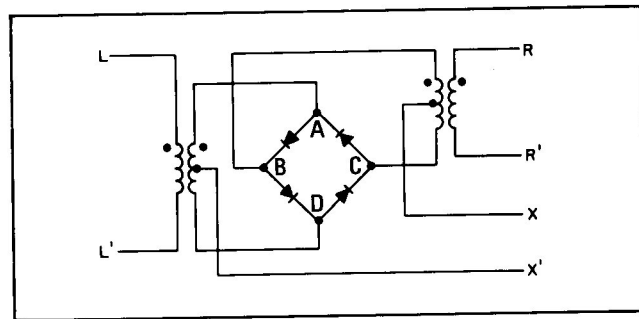

Figure 9. Schematic Diagram
26. The circuit of the Model 10534A Mixer (Figure 9) is commonly known as a double-balanced, or ring modulator. Note that the diodes are all connected with the cathode of one connected to the anode of the next, "short-circuiting" the transformer secondaries; this is not the same circuit as a rectifier bridge.
diodes, which then act like resistors in series in a link-coupling circuit. When sufficient dc current is applied at X to cause a pair of diodes to act like small resistors, the secondary windings of the left and right transformers (refer to schematic diagram, Figure 9) are connected together and the input at L will be available at the output R. Attenuation is inversely proportional to the dc current applied at X.